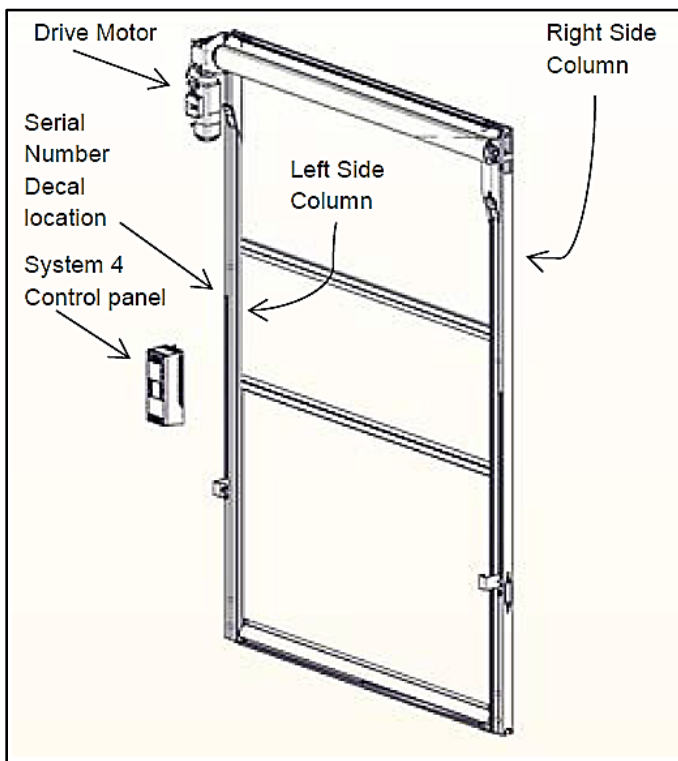

Figure 47
3. To ensure that the correct parts are shipped, please include the serial number of your door with the order. The serial number is located on the left hand side column, on the drive motor gearbox or inside the System 4 control panel. (See Figure 47.)